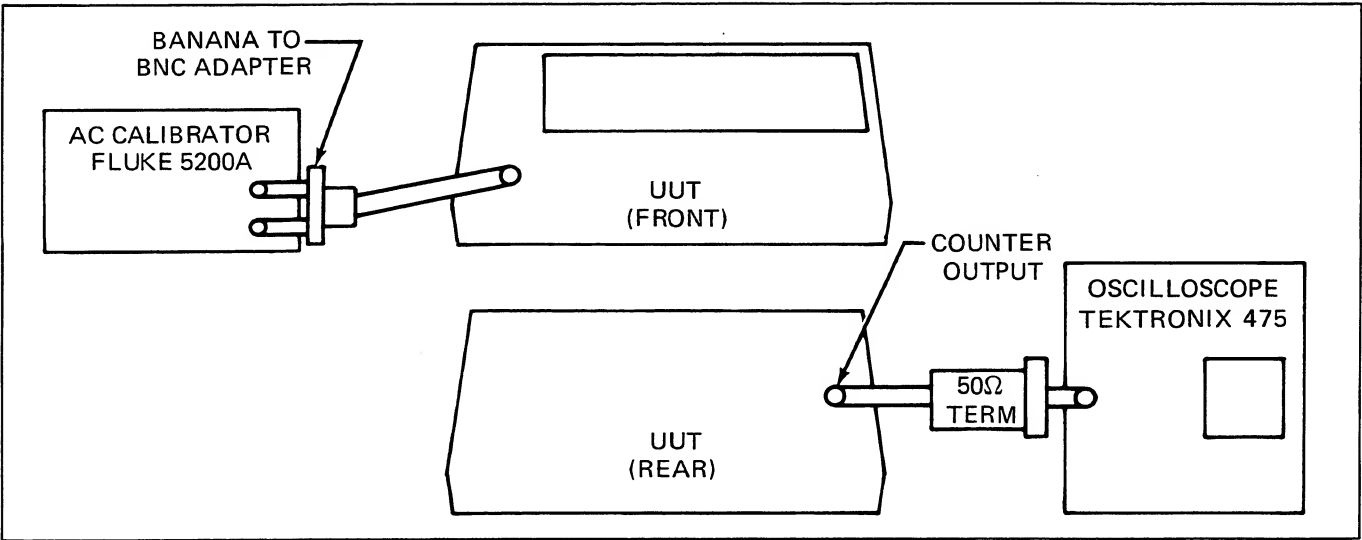
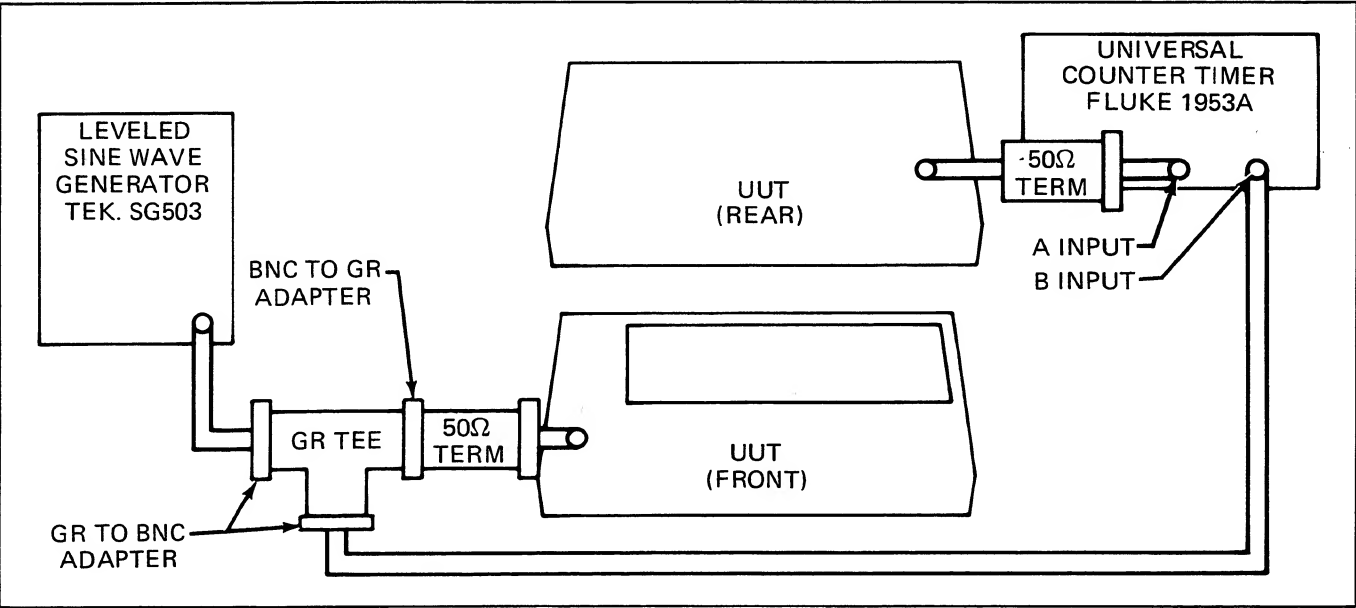
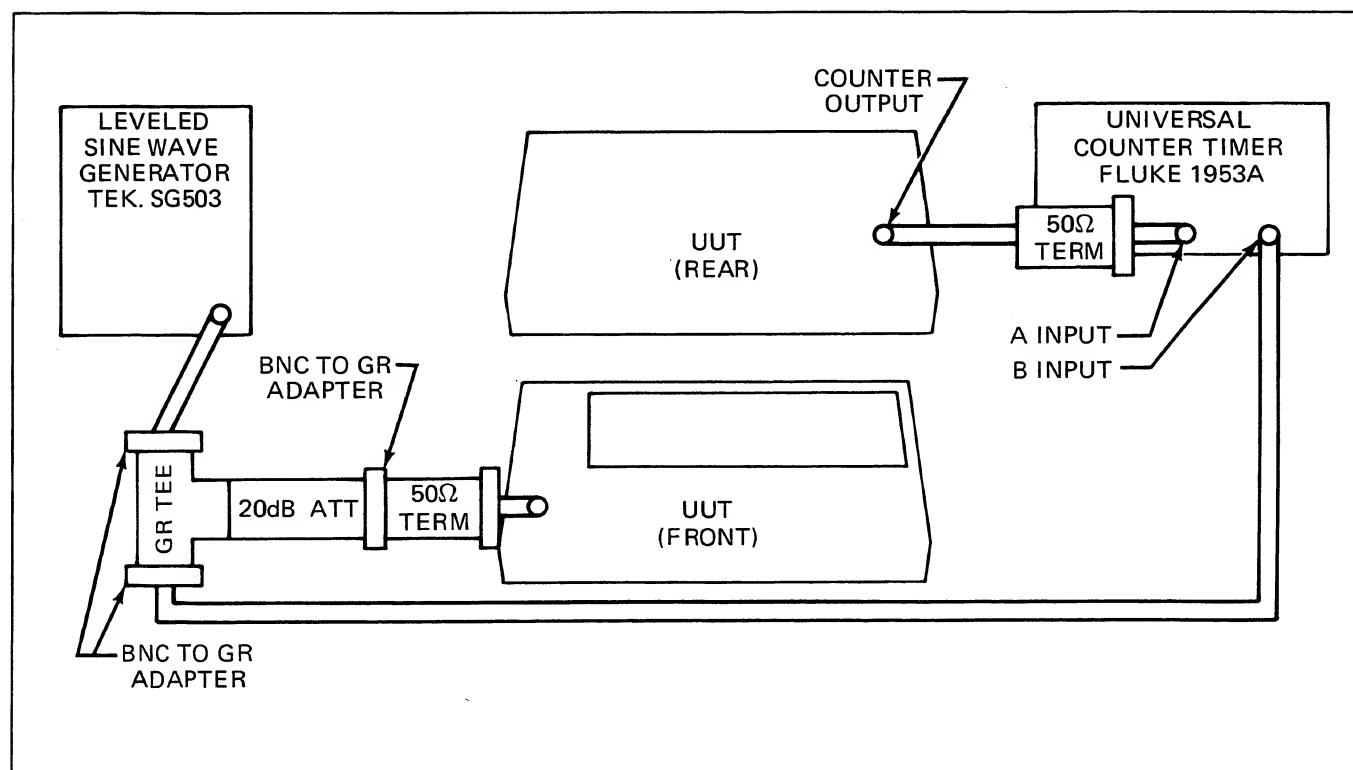

Figure 603-3. Counter Output Performance Set-Up
Figure 603-4. Counter Output Performance Test Set-Up
Figure 603-5. Calibration Set-Up
1. Connect the AC calibrator, UUT, oscilloscope and termination as shown in Figure 603-3.
4. Disassemble the setup as shown in Figure 603-3, and connect the SG503, UUT, and Universal Counter-Timer and terminations, as shown in Figure 603-4.
2. Connect the AC calibrator, UUT, oscilloscope, and terminations as shown in Figure 603-3.
5. Disassemble the set up as shown in Figure 603-3 and connect the SG503, UUT, Universal Counter-Timer, and terminations as shown in Figure 603-5.